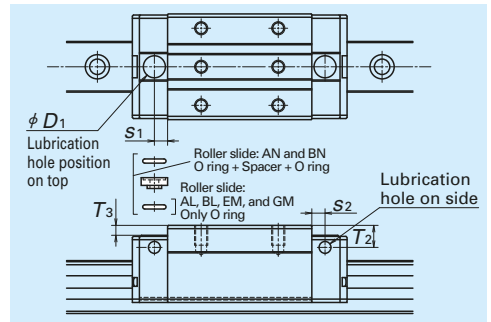

Fig.13 Top and side lubrication hole positions
- A lubrication hole can also be provided on the top of the end cap. Fig.13, Table 9 and Table 10 show the mounting position O-ring, and spacer requirements. A spacer is required for some roller slides. The spacers are available from NSK.